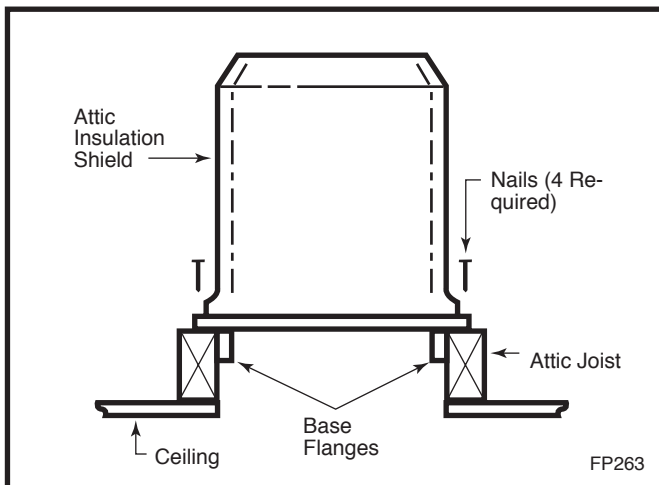

Fig. 32 Attic shield installation.
- The minimum height of the vent above the highest point of penetration through the roof is 2' (610mm). (Fig. 32)